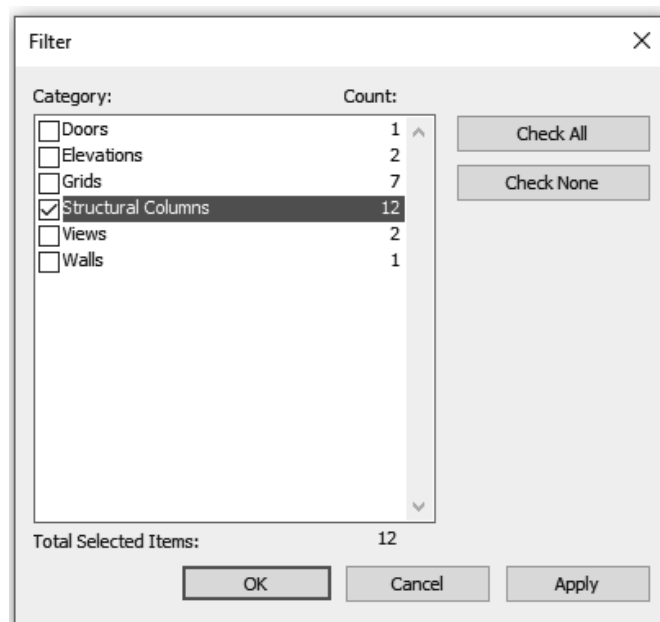

Figure 2-19
2. in the *Modify | Multi-Select* tab>Selection panel, or in the Status Bar, click  (Filter). The Filter dialog box opens, as shown in Figure 2-19.